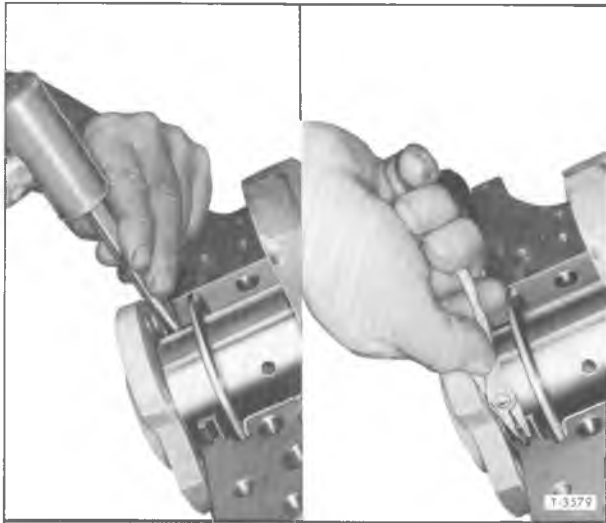

Figure 22—Removing Oil Seal Upper Half (Typical)
3. Use light hammer and small brass pin punch in manner shown in figure 22 to start seal upper half out of block. When end of seal protrudes far enough to be grasped with pliers, pull upper half out of block.